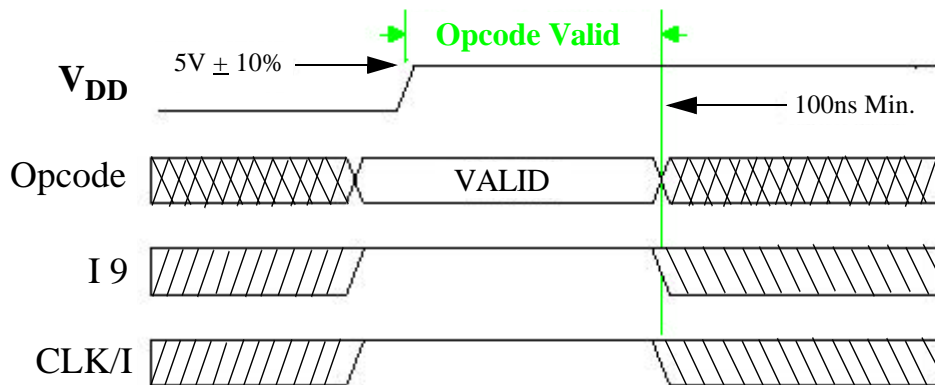

Figure 1. Opcode Timing
- 2) Apply one of the opcodes from Table 1 for at least 100ns anytime after V_{DD} is within $5V \pm 10\%$ to ensure all test mode latches are cleared. Figure 1 shows the opcode timing diagram.